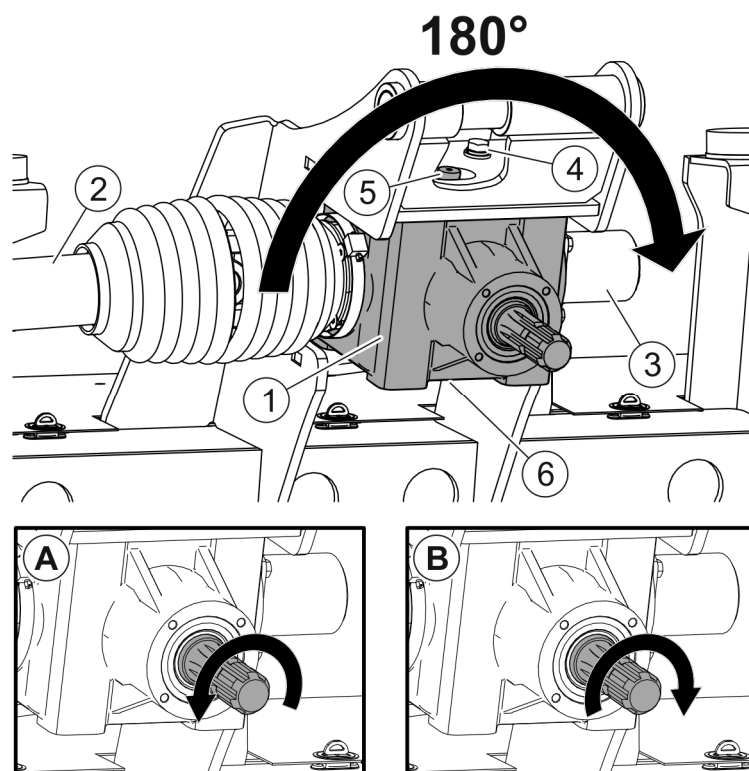

FIGURE 4.1 Position of bevel gear and rotation direction of gear shaft.
(1) central bevel gear, (2) PTO shaft, (3) external shaft guard, (4) bolts, (5) air vent, (6) drain plug, (A) gear shaft rotation direction (standard), (B) gear shaft rotation direction when changed by 180°
Before hitching the mower to tractor, check that PTO rotation direction of both tractor and the mower are the same. In standard machines rotation direction (A) (FIGURE 4.1) of the central gear shaft is compatible with tractors with PTO shaft rotating clockwise when seen from the